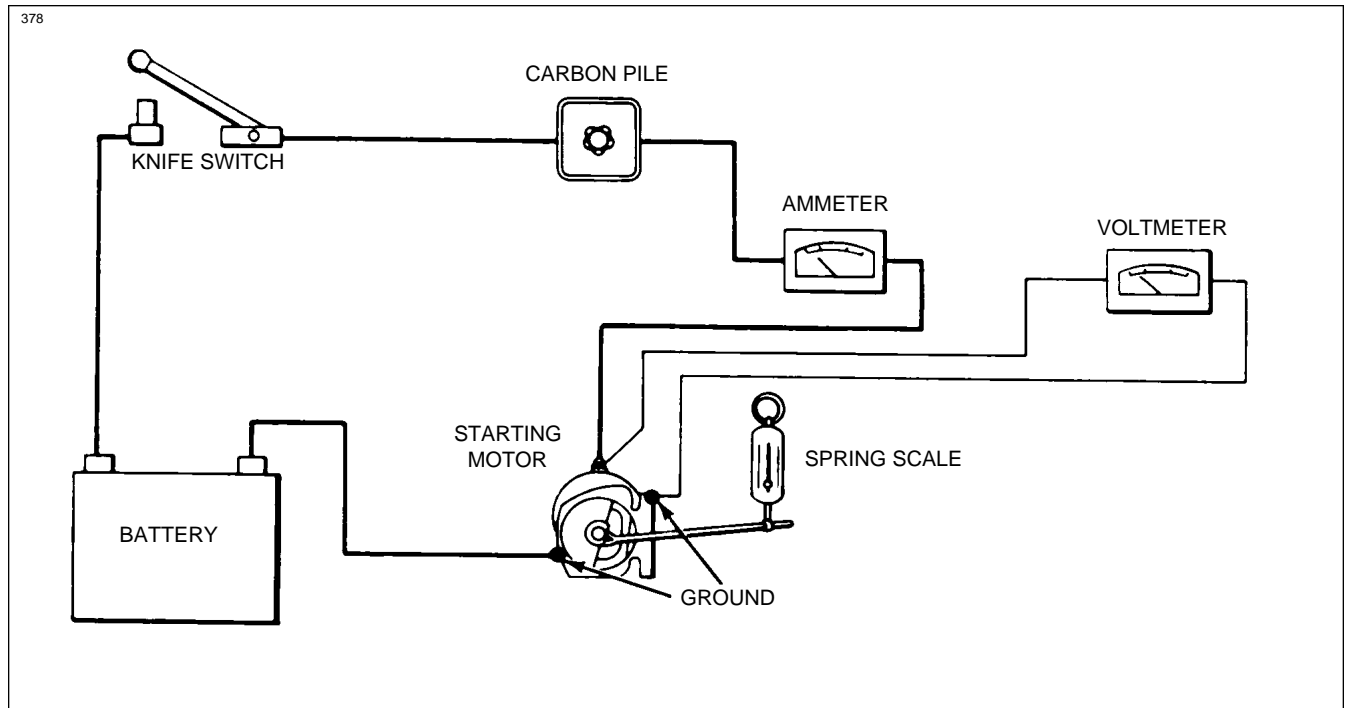

Figure 11-24. Stall Torque Hookup
b. If no difficulty is indicated in the above test, a stall torque test may be made to see if the starting motor is producing its rated cranking power. Make test connections as shown in Figure 11-24.